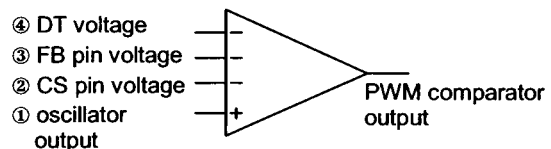
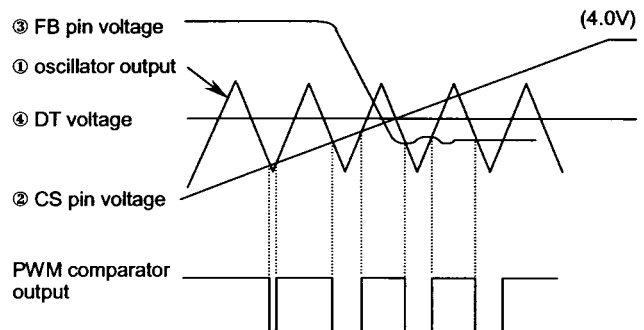

Fig.4 PWM comparator
Fig.5 PWM comparator timing chart
The PWM comparator has four inputs as shown in Figure 4. Oscillator output ① is compared with CS pin voltage ②, FB pin voltage ③, and DT voltage ④. The lowest of three inputs ②, ③, and ④ has priority and is compared with output ①. While the voltage is lower than the oscillator output, the comparator output is high. While the voltage is higher than the oscillator output, the PWM comparator output is low (see figure 5). The IC OUT pin voltage is high while the PWM comparator output is low.